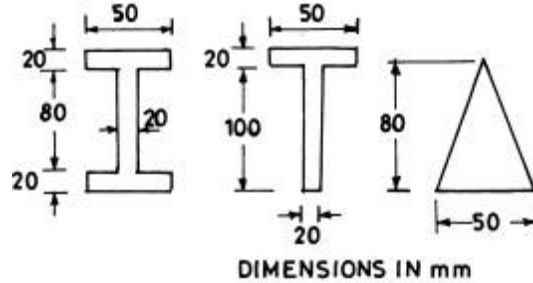

Fig. 4
4. The three beam section shown in Fig. 4 are subjected to a shear force of 100 kN. Draw the shear stress and shear flow diagram along the depth.